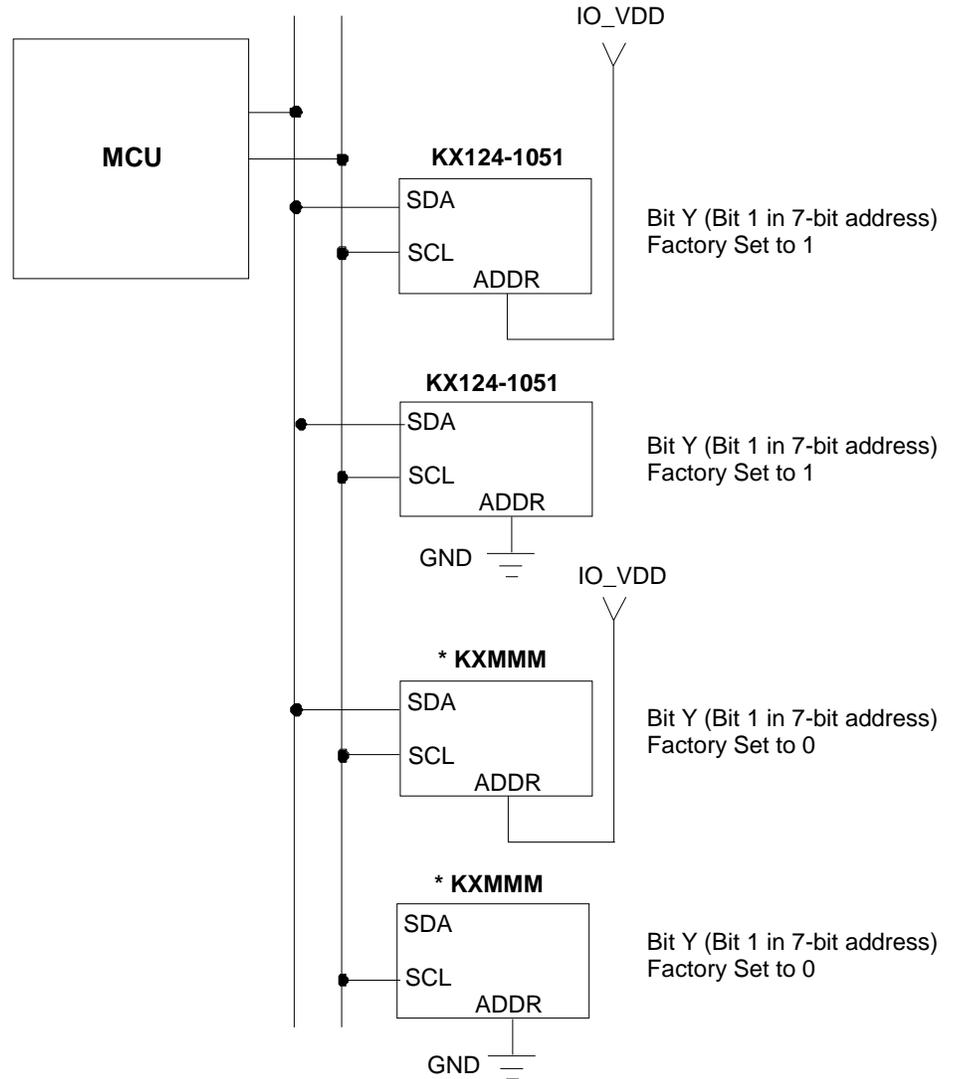

Figure 1: Multiple KX124 Accelerometers on a Shared I²C Bus
Transactions on the I²C bus begin after the Master transmits a start condition (S), which is defined as a high-to-low transition on the data line while the SCL line is held high. The bus is considered busy after this condition. The next byte of data transmitted after the start condition contains the Slave Address (SAD) in the seven MSBs (Most Significant Bits), and the LSB (Least Significant Bit) tells whether the Master will be receiving data ‘1’ from the Slave or transmitting data ‘0’ to the Slave. When a Slave Address is sent, each device on the bus compares the seven MSBs with its internally stored address. If they match, the device considers itself addressed by the Master. The KX124 Slave Address is comprised of a user programmable part, a factory programmable part, and a fixed part, which allows for connection of multiple accelerometers to the same I²C bus. The Slave Address associated with the KX124 is 00111YX, where the user programmable bit X, is determined by the assignment of ADDR (pin 1) to GND or IO_VDD. Also, the factory programmable bit Y is set at the factory. **For KX124-1051, the factory programmable bit Y is fixed to 1** (contact your Kionix sales representative for list of available devices). Table 7 lists possible I²C addresses for KX124-1051. As a result, up to four accelerometers can be implemented on a shared I²C bus as shown in Figure 1 on the next page (e.g. two KX124-1051 accelerometers and two other accelerometers with factory programmable bit Y set to 0).